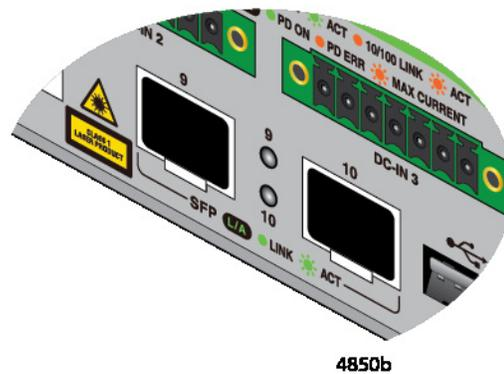

Figure 57. SFP Ports 9 and 10
1. Select a port for the transceiver. Refer to Figure 57.